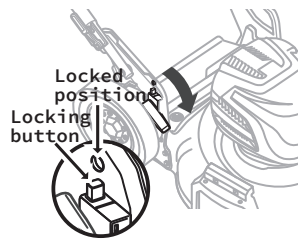

Fig. 13A
3. Press and hold the quick adjusting lever with one hand to release the handle. Gently pivot the handle from working position to the folding position of the mower. (Fig. 13A)